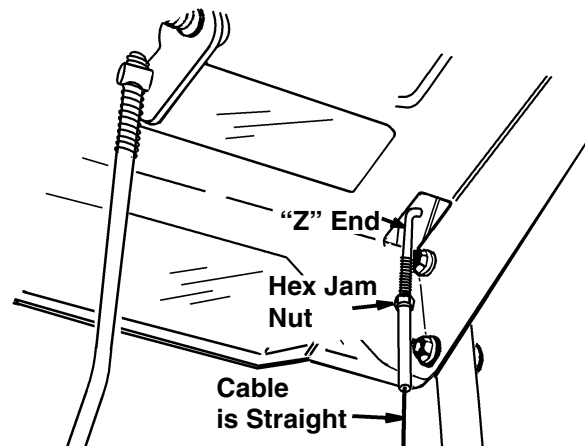

Figure 13
3. Thread the cable onto the threaded portion of the "Z" and until there is no slack in the cable, but the **cable is NOT tight. Do not overtighten cable.** See Figure 13.